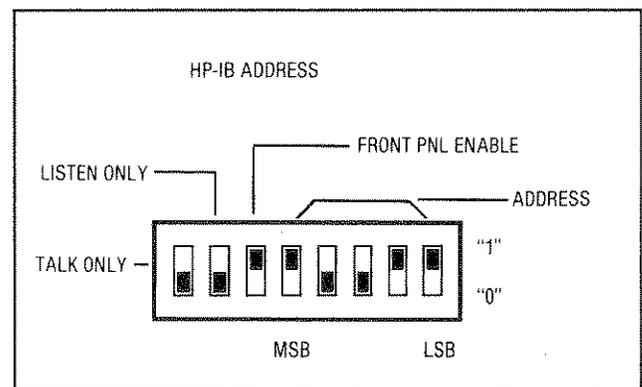

Figure 2-3. HP-IB Address Switch Shown as Set by the Factory
- Set the switches to the desired HP-IB address (in binary) or the Talk Only or Listen Only setting. The switch is illustrated in Figure 2-3. If both the Talk Only and the Listen Only switches are set to "1", the Talk Only setting overrides the Listen Only setting. Setting the address switch to Talk Only or Listen Only selects a unique HP-IB address; Talk Only = 50, Listen Only = 40. Talk Only and Listen Only are used when the Signal Generator is in a master/slave configuration. See the Detailed Operating Instructions in Section III for more information.